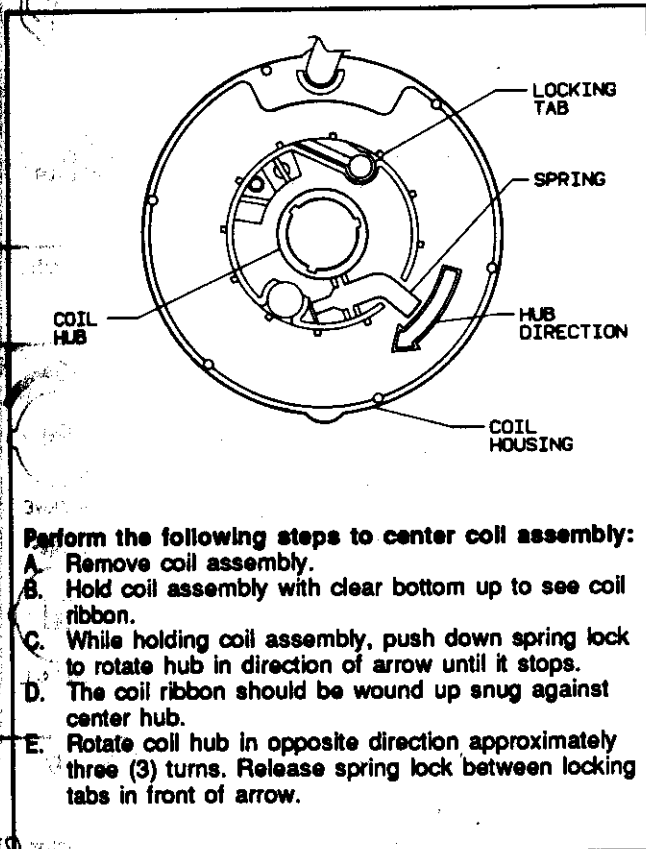

Figure 12 - Centering Coil Assembly
- 2) centering spring is pushed down, letting hub rotate while coil is removed from steering column. (In the event this occurs, see figure 12.)
- 2) centering spring is pushed down, letting hub rotate while coil is removed from column. (In the event this occurs, see figure 12.)
NOTICE: If a new coil assembly (3) is being installed, assemble pre-centered coil assembly (3) to steering column. Remove centering tab and dispose. (See figure 12.)
20. Wave washer (4).
21. Coil assembly (3) using horn tower on cancelling cam assembly (7) inner ring and projections on outer ring for alignment.
22. Coil assembly retaining ring (2).